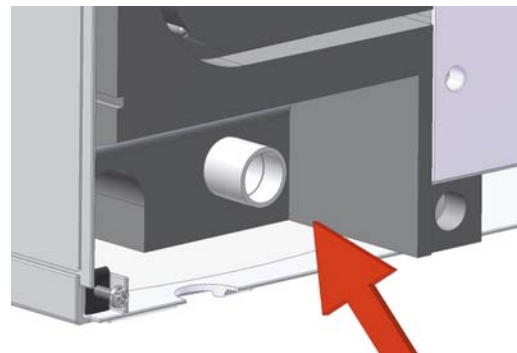

Figure 10: Condensate Stub Disk Removal (Rear of Unit)
2. Remove the knock-out disk from the end of the condensate stub at the rear of the unit (see Figure 10).